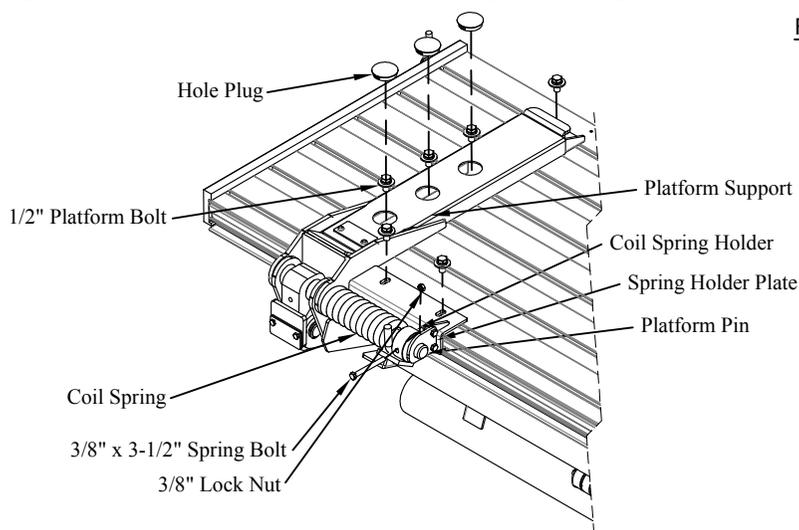

Figure 2: Platform Hardware (other side similar).
2. **REMOVE** the 3/8" x 3-1/2" spring bolts (Figure 2).
3. **REMOVE** the spring holder plates, and coil spring holders (Figure 2).
4. **REMOVE** six (6) plastic hole plugs in platform support (Figure 2).
7. **REMOVE** twelve (12) 1/2" platform bolts with flat and lock washers from platform supports (Figure 2).
2. **INSTALL** twelve (12) 1/2" platform bolts with flat and lock washers to secure platform to platform supports, **DO NOT** tighten (Figure 2).
4. **INSTALL** six (6) plastic hole plugs in platform supports (Figure 2).
6. **INSTALL** coil spring holders and spring holder plates (Figure 2).